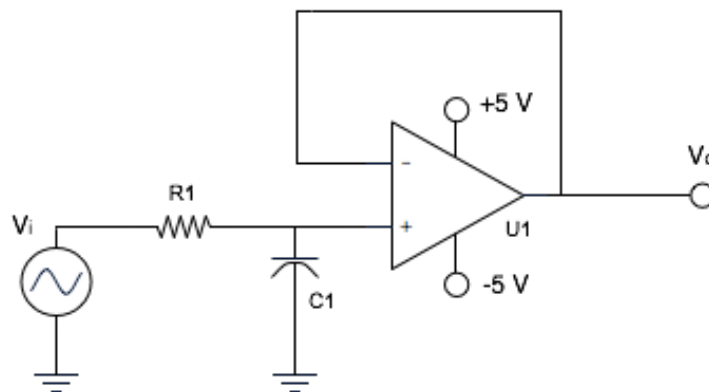

Figure 4: Filter 1
1. Build the circuit in Figure 4 from the preliminary on a breadboard. Use the same component values of  $R=22k\Omega$  and  $C=0.0047\mu F$ . Use a power supply to power the op-amp with +5 and -5 volts and connect a function generator as the circuit input. **\*\*\*Do not use the same ground connect for  $V_i$  and the op-amp, your readings will be incorrect.** Set the function generator to 2  $V_{pk-pk}$  sine wave starting at a frequency of 1Hz. Use the oscilloscope to observe the output of the circuit and the voltage output of the function generator (use a "T" connector at the function generator output). Record the initial peak-to-peak output of the circuit ( $V_{pk-pk}$ ).